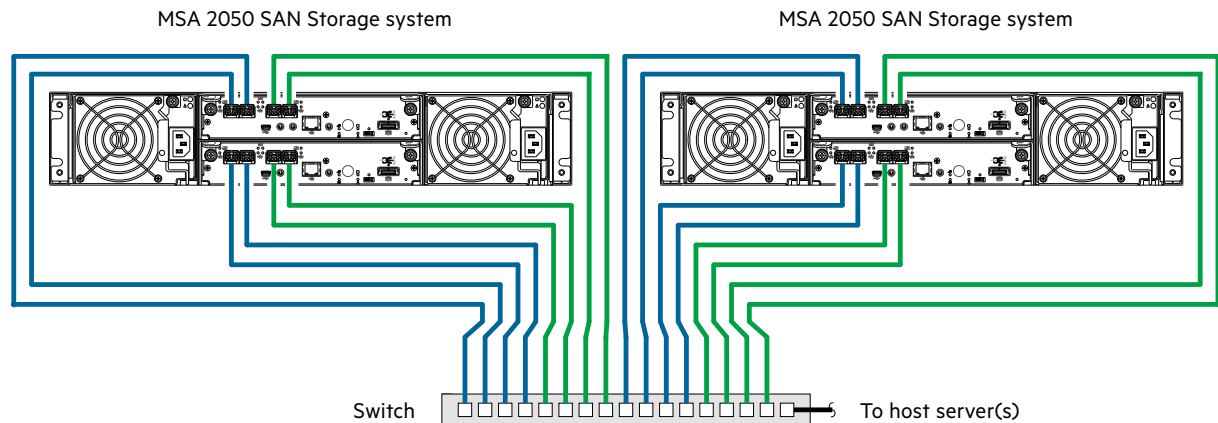

Figure 20 Connecting two storage systems for Remote Snap: multiple servers/one switch/one location
- The storage system does not provide for specific assignment of ports for replication. However, this can be accomplished using virtual LANs for iSCSI and zones for FC, or by using physically separate infrastructure. See also paragraph above Figure 20 \(page 34\).